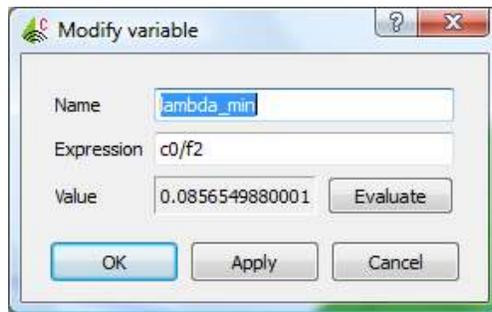

Figure 13.
16. We define $F1=1.0e9$ and $F2=2.0e9$ as the start and stop frequency variables. We will create the minimum lambda (wavelength) based on the highest frequency, thus $\lambda_{min}=c0/F2$. This variable is shown in Figure 13.